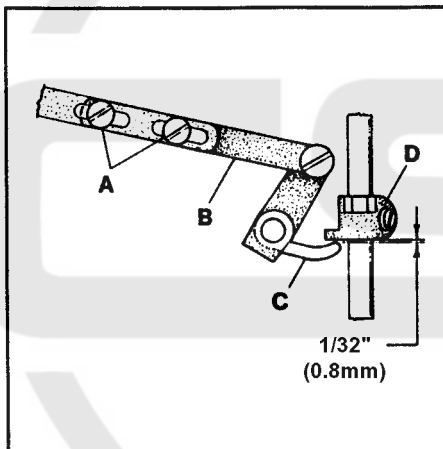

FIG. 22
Replace the presser spring and the presser bar regulating screw. Loosen screws (A, Fig. 22) in lifter lever link assembly (B) and position lever (C) so there is $1/32$ " (0.8mm) clearance between it and presser bar guide (D) when the feed dogs are below the throat plate.
NOTE: Make sure the 1/32" (0.8mm) clearance between the presser bar lifter lever and presser bar guide has been maintained. Refer to Fig. 22 if readjustment is necessary.